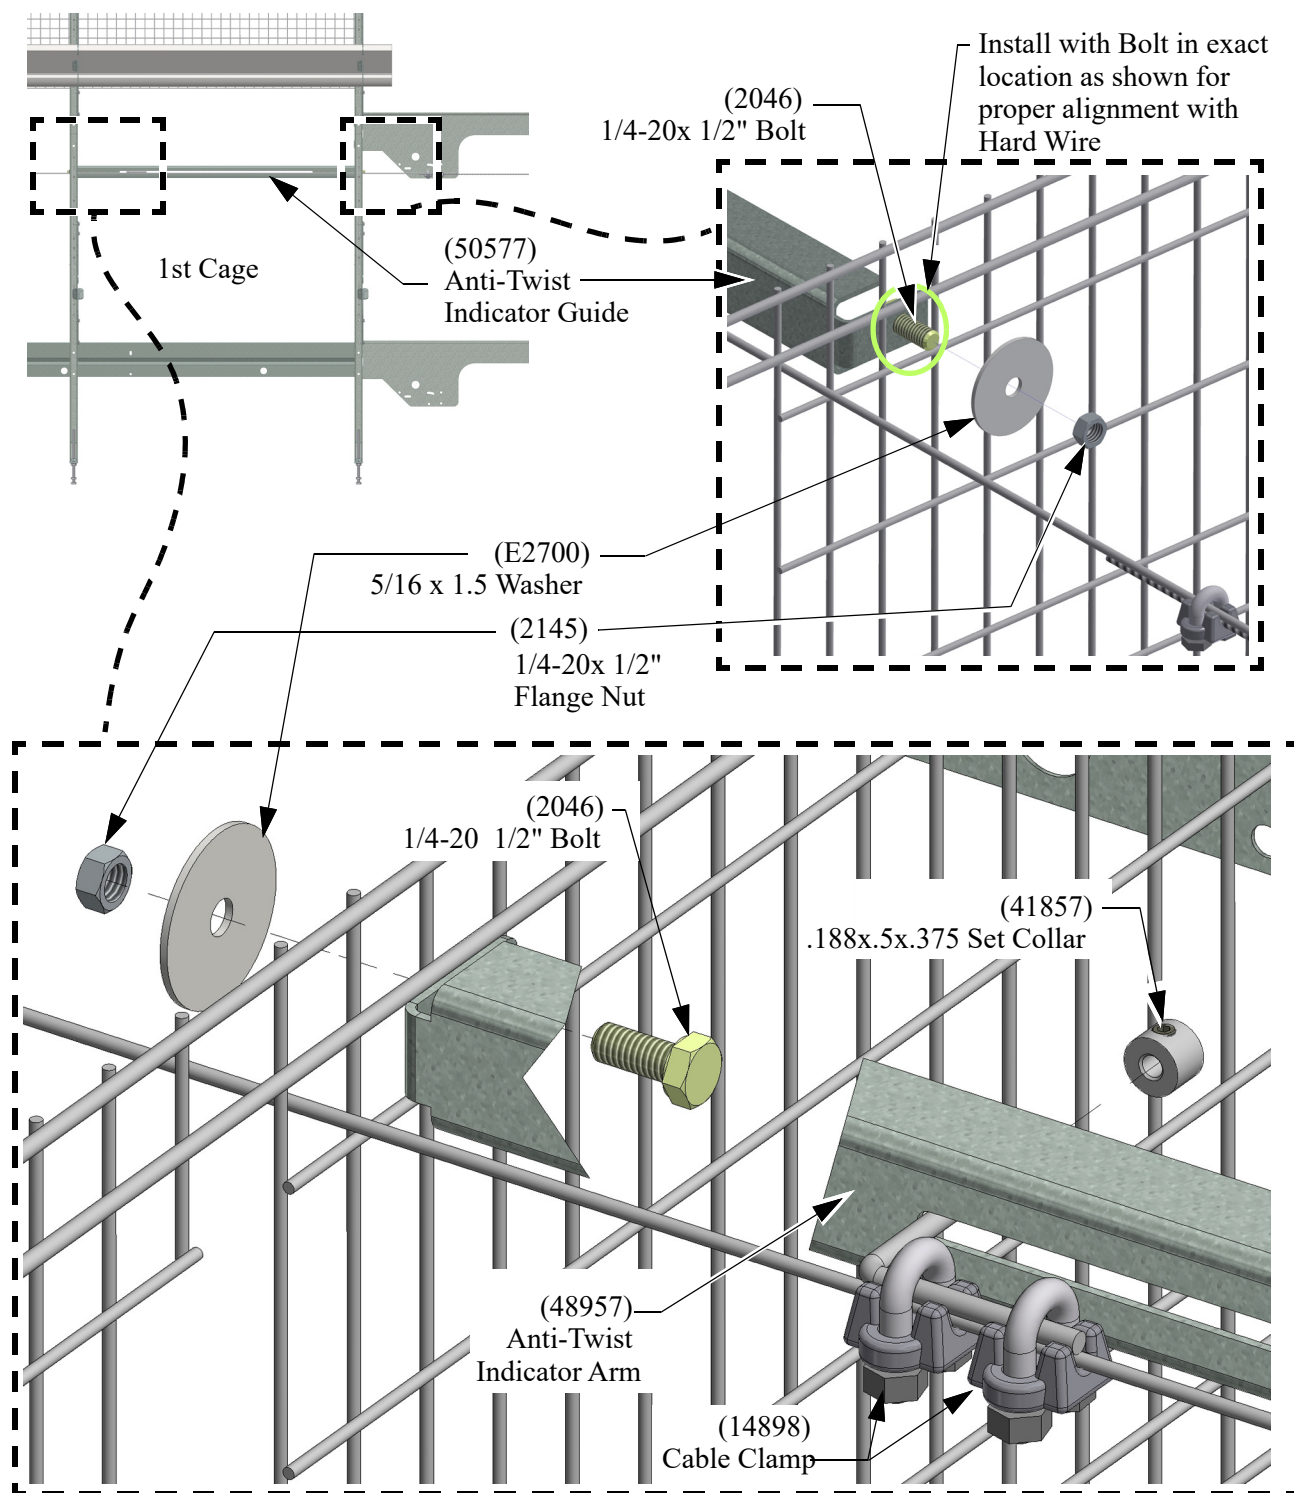

Figure 8. Anti-Twist Indicator Installation
1. Install the (50577) Anti-Twist and Indicator Guide in the location shown below in **(Figure 8.)** using (2046) Bolts, (E2700) Washers and (2145) 1/4-20 Flange Nuts.
3. Secure the Anti-Twist Arm to the Hardwire with two (14898) Cable Clamps and finally slide a (41857) Set Collar on and torque Set Screw down. **(See Figure 8.)**